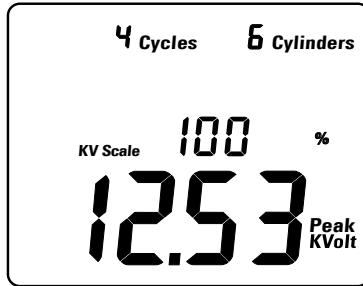

Fig. 4 - Example of display when in KV Adjust mode
- 3-Press and hold the  (*Engine Cycles / KV Adjust*) button until the minimum reading in the display is replaced by 'KV Scale' and then a number followed by a '%' sign, as shown in Fig. 4 below.